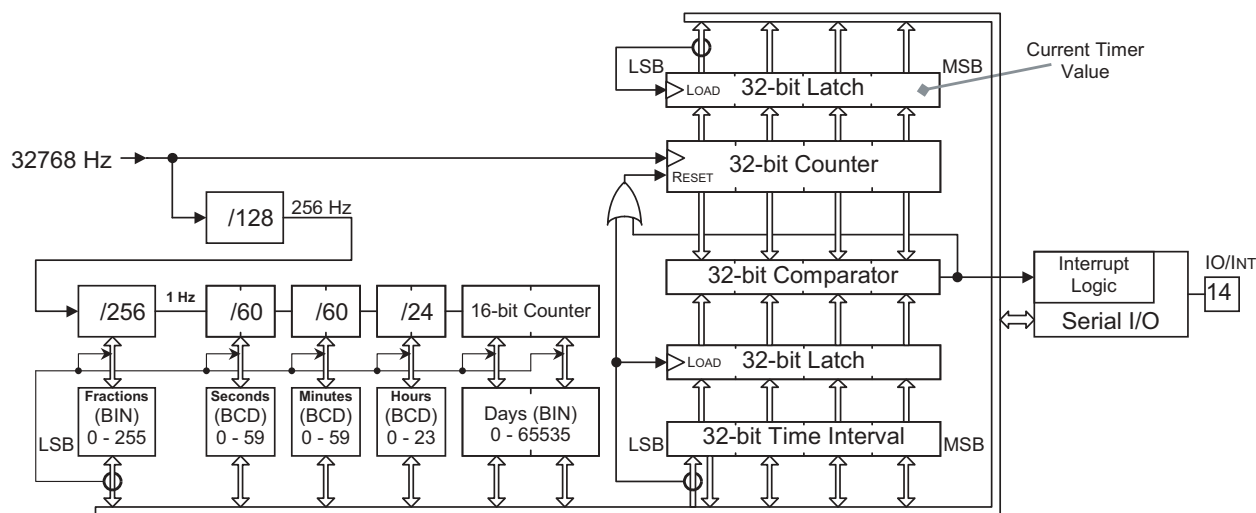

Figure 7: Real-Time Support: Real-Time Clock (RTC), Periodic Interrupt, & Wake-up Timer
The Real-Time Clock (RTC) feature uses the internal 32 kHz clock from the low-frequency (LF) oscillator. As shown in **Figure 7**, the RTC divides the 32 kHz clock by 128 to produce a 256 Hz clock. The next divider is a modulo-256 counter, which is readable and write-able from the serial interface. The next stage is a divide by 60, which provides seconds in BCD format. Another divide-by-60 counter provides minutes in BCD, followed by a divide-by-24 counter that provides hours in 24-hour mode in BCD format. This in turn clocks a 16-bit binary counter, which can log up to 65535 days (over 179 years).
As shown in **Figure 7**, a 32-bit counter is clocked by 32.768 kHz, producing a minimum interval of 30.5 μ s and a maximum interval of 36.4 hours.
If there is an interrupt pending from the SH3000, and the host microcontroller does not clear the interrupt pending bit, then the SH3000 issues an interrupt after each subsequent read or write cycle until this bit is cleared (see **Figure 7**).